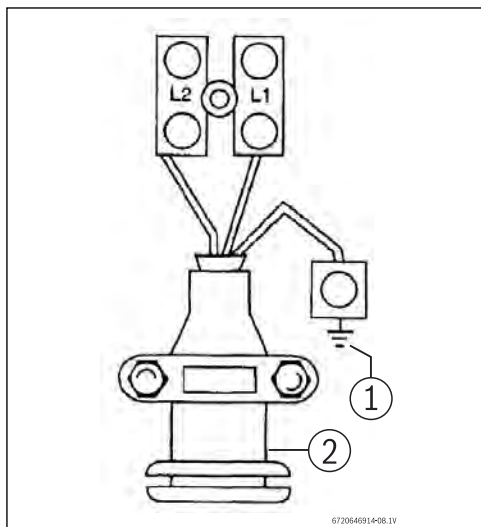

Fig. 4 Cable termination
- Connect the cables to the terminal block and ground stud (Fig. 4):